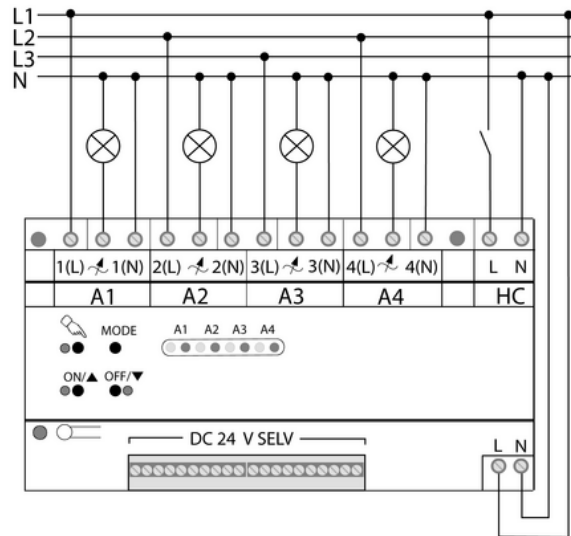

Figure 3: Connection example: mains power supply, hotel card switch and loads
Output terminals up (figure 3).
- Connect the mains power supply (figure 3).
- Connect the hotel card switch as shown in the connection example (figure 3).
- Connect loads as shown in the wiring example (figure 3).